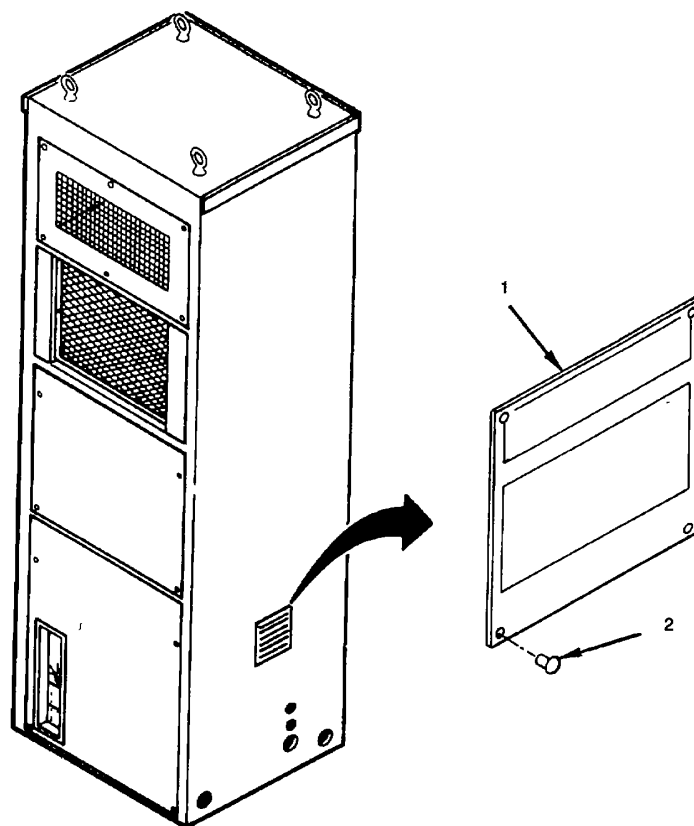

Figure 4-16. Information Plate
- a. Check that information plate (1) is readable and in place (see fig. 4-16).
- b. Check for missing rivets (2).